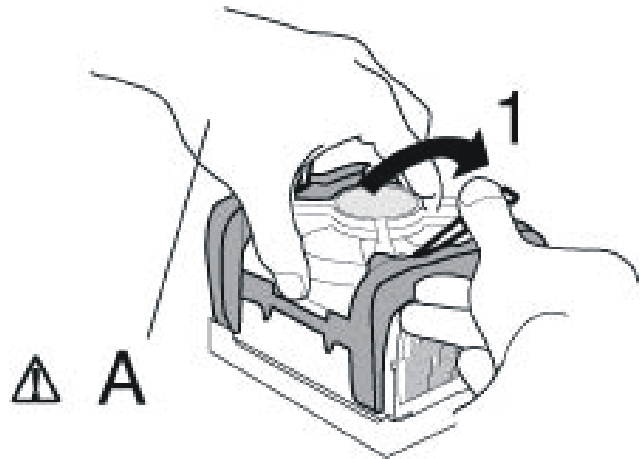

Figure 3-9b: Installing the Fan Heatsink (5)
- a.) Make sure to close the clips levers in opposing directions, one at a time (levers require force to be completely closed), as shown in Figure 3-9a. First, close the clip lever (1 in Figure 3-9b), while holding the topside of the fan heatsink with your other hand (A in Figure 3-9b).